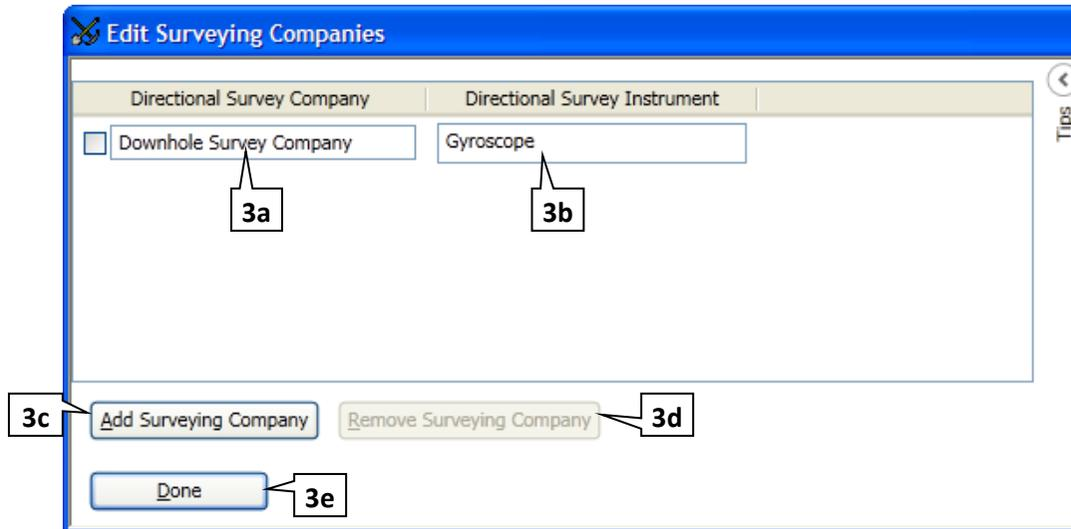

Figure 15 - Edit Surveying Company Window
3. Enter Surveying Companies by pressing the Edit Surveying Companies button. If surveys were completed in house, you can put your company name in the Downhole Directional Survey Company column. See Figure 15 for more details.